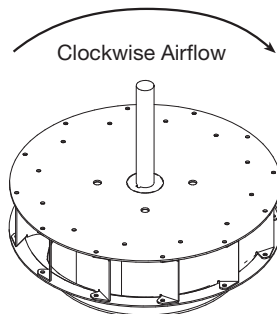

Fig. 8
3. Check wheel rotation (viewing from the shaft side) by momentarily energizing the unit. Rotation should correspond to the rotation decal on the unit, see figure 8. If wheel rotation is incorrect, reverse two of the wiring leads or check motor wiring for single phase.
- 3. Start the fan and shut it off immediately to check rotation of the wheel with directional arrow in the motor compartment, see figure 8.